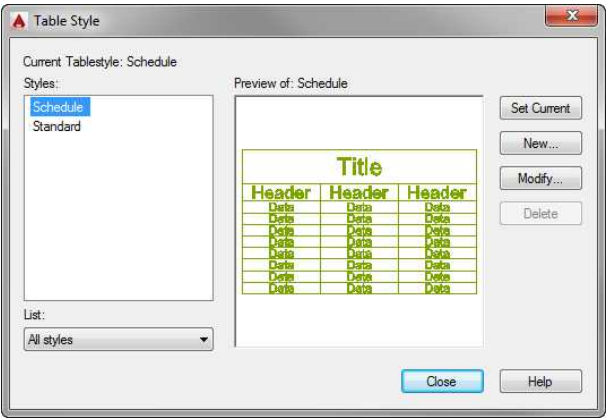

FIGURE 9.63: The Table Style dialog box with Door Schedule as the current table style
18. Back in the Table Style dialog box, in the Styles list, click Schedule to highlight it, and then click the Set Current button to make it the current table style (see Figure 9.63). Click Close.